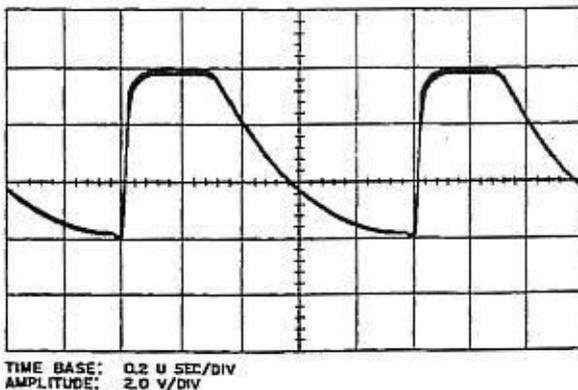

Figure 6.8B – Q1, Collector Waveform
scope to collector of Q1 (or bottom of R2). The observed waveform should resemble the one shown in figure 6.8B.
- b. Connect oscilloscope to the collector of Q1 (or the right side of R2), and adjust R66 for a pulse width of 0.25 usec at the flat top of the waveform. Waveform should resemble figure 6.8B.